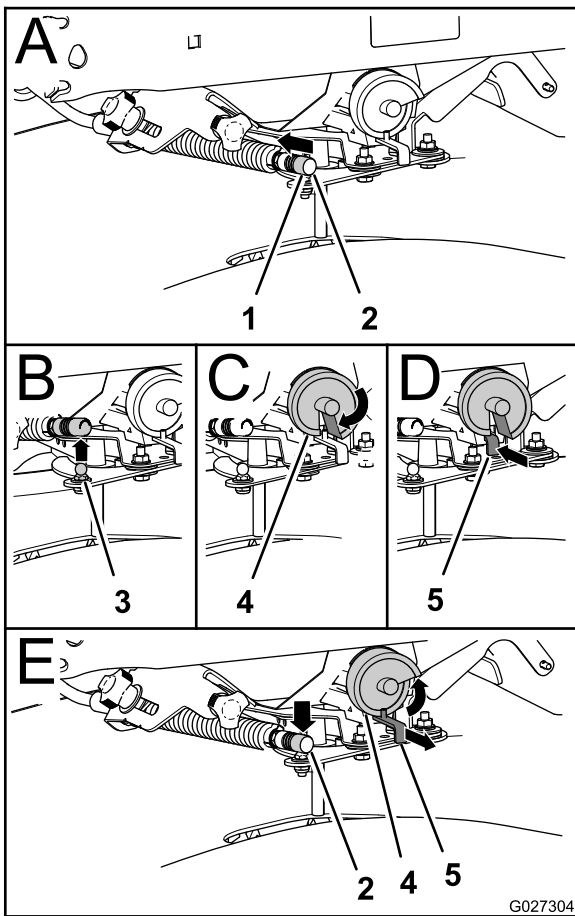

Figure 28
1. Push the locking sleeve for the gate cable rearward and lift the cable up from the ball stud of the rate-gate linkage (Figure 28).
2. Pull the cable off the ball stud (Figure 28).
3. Rotate the drop-rate cam past position-9 so that the slot in the cam aligns with the linkage (Figure 28).
4. Fully push the rate-gate linkage rearward (Figure 28).
1. Pull the linkage out until it clears the drop-rate cam (Figure 28).
3. Attaching the cable to the ball stud at the gate lever(Figure 28).